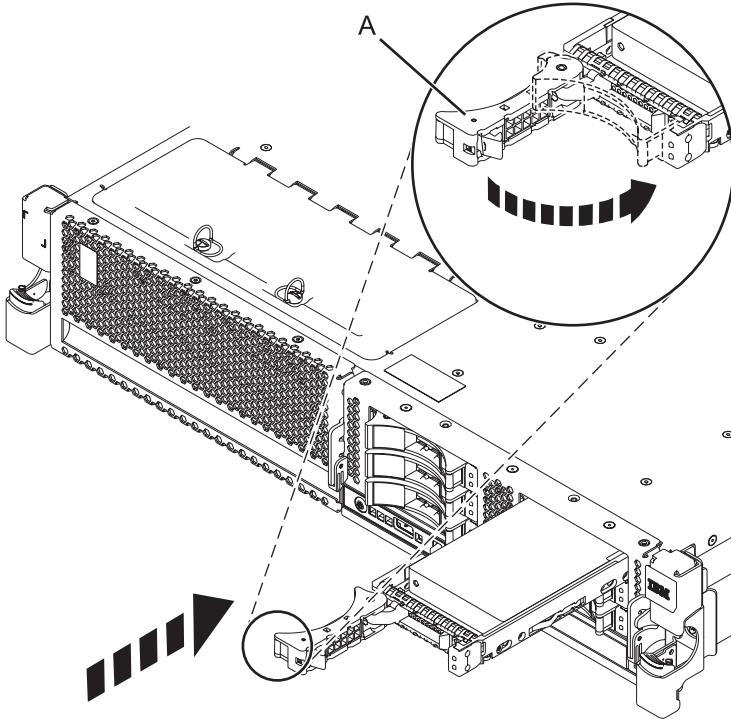

Figure 1. Installing the disk drive in the system
6. When the identify LED turns on solid, slide the drive all the way into the system or an expansion unit, and push the drive handle (A) in until it locks. See Figure 1 on page 8.